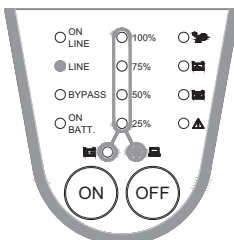

Fig. 3-1 STANDBY Mode
- When the utility power is applied to the UPS, the fan (in rear panel) will run and all LED indicators will light for about 2-3 seconds. Meanwhile, the CPU inside the UPS will determine the initial parameters. Users can also check if all the LED indicators are normal. The UPS is set in "STANDBY Mode" initially. After you hear a 'beep' sound, the load LED lights on and the line LED indicator shows the AC utility status. See Fig. 3-1.
To shut down the UPS, press the OFF button until you hear a “beep” sound. After a few seconds, the UPS will be powered off. Even though the OFF button has been pressed, the UPS will keep charging when the UPS operates in “STANDBY Mode”. To fully shut down the UPS, it is suggested that you unplug the power cord. See Fig. 3-1.